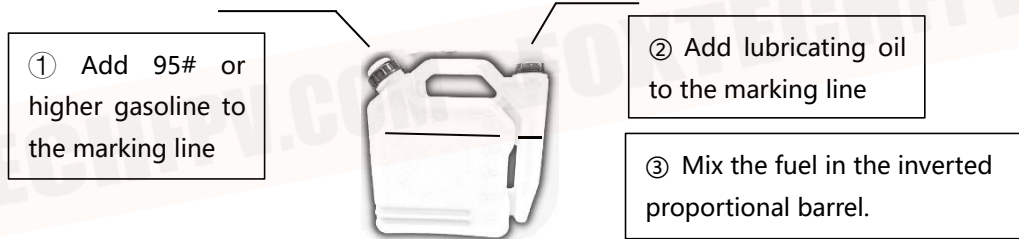

Fig. 7
3.3 The oil pump installation and oil pipe connection are shown in Figure 7 below :
The specific preparation steps are shown in Figure 7 below.